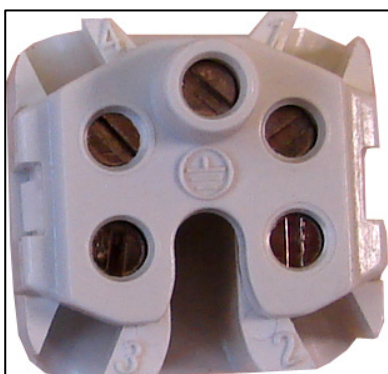
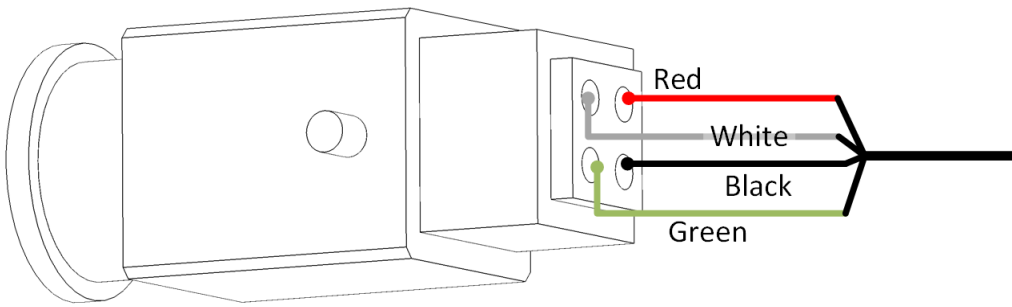

Figure 7: Connector Numbers
Figure 8: Wired Connector
5. On the top of the connector are numbers (Figure 7). Each wire must be attached to the corresponding port (Table 1). Connect the four wires to the connector Figure 8.